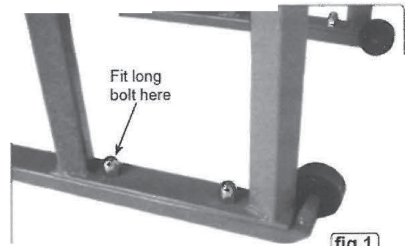

fig.1
NOTE: the one longer bolt is fitted in position as shown in fig.1
7. Fit the locating platform by threading it onto the long metal rod and securing it by fitting and tightening the knob. The top of the rod fits through the hole in the frame and is held in place using a domed nut and washer. The bottom of the rod is secured by attaching the metal arm to it and securing with a nut. Then undo the domed nut previously fitted (fig.1), and fit the metal arm over the bolt and refit the domed nut. Tighten all nuts in turn ensuring that the metal rod hangs vertically from the frame and also squarely to the metal arm (see fig.5).